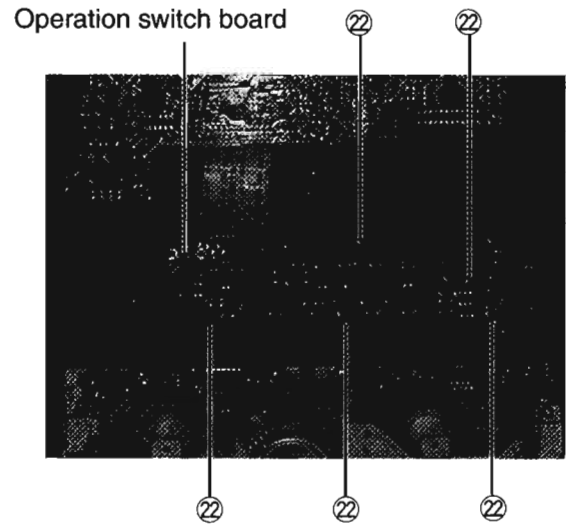

Fig. 18
■ Removal of the Operation Switch Board (See Figs 18)
7. Remove the five screws ⑰ fastening the operation switch board..(See Fig.18)